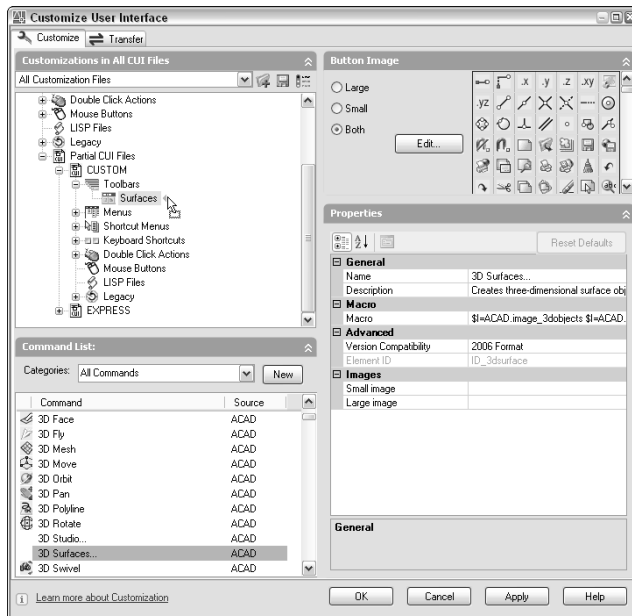

**Figure 29-6:** To add a button to a toolbar, you can drag a command from the Command List to a toolbar in the Customize User Interface dialog box.
6. Drag the command from the list to the toolbar item in the Customizations In pane until you see an arrow pointing to the toolbar, as shown in Figure 29-6.